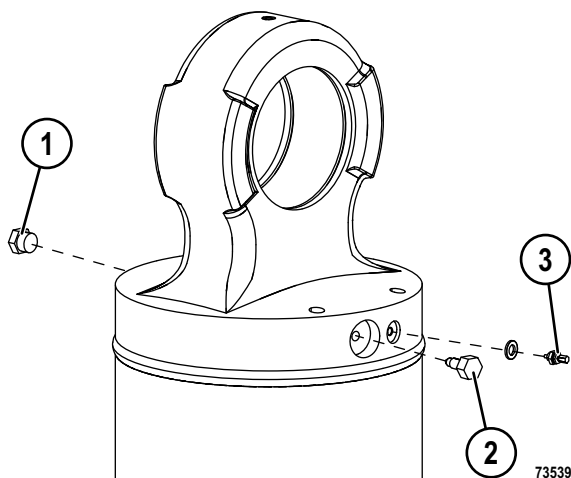

FIGURE 30-17. REAR SUSPENSION PORTS
6. Remove vent plug (1, Figure 30-17), pressure sensor (2) and charging valve (3).